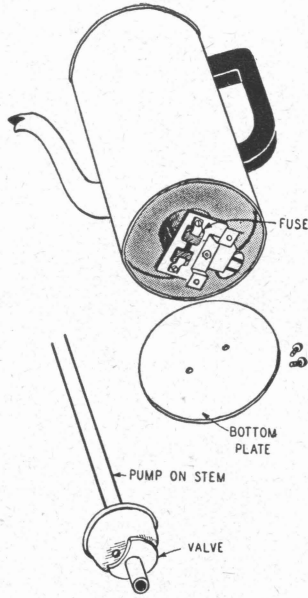

Fig. 26
**Remedy:** Examine bottom of percolator for fuse. It may be necessary to remove bottom plate and replace fuse. Fig. 26.
**Remedy:** Clean the valve or stem by forcing water through it or use a small round brush. Fig. 26.